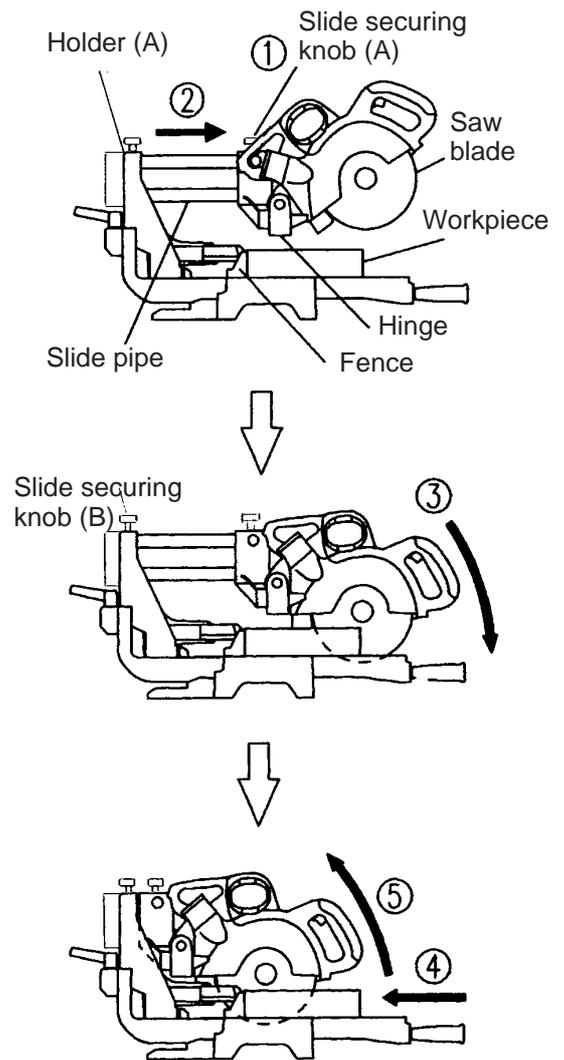

Fig. 36
(1) Cutting efficiency will be reduced if a dull saw blade is used, if an excessively long extension cord is used, or if the wire gauge of the extension cord is too small. (For details, refer to the Instruction Manual "USE PROPER EXTENSION CORD".) This is particularly important when cutting materials with dimensions which are at or near the maximum capacity for the machine.
(2) The customer should be advised to thoroughly inspect the workpiece to ensure that there are no metallic objects (nails in particular), sand, or other foreign matter in or on the workpiece. Contacting such foreign matter will not only shorten the service life of the saw blade, but could cause serious accident. Should the saw blade tips be broken off, the tips may fly toward the operator.
(3) Press cutting (③ in Fig. 36)
(4) Slide cutting (① to ⑤ in Fig. 36)
Instruct the customer to always slide the saw blade section toward the fence while cutting, as shown by arrow ④ in Fig. 36.
- ⑤ On completion of the cutting operation, turn the switch off and wait for the saw blade to come to a complete stop before raising the handle to its original position. Raising the handle while the saw blade is still rotating may cause unwanted cutting marks on the workpiece.